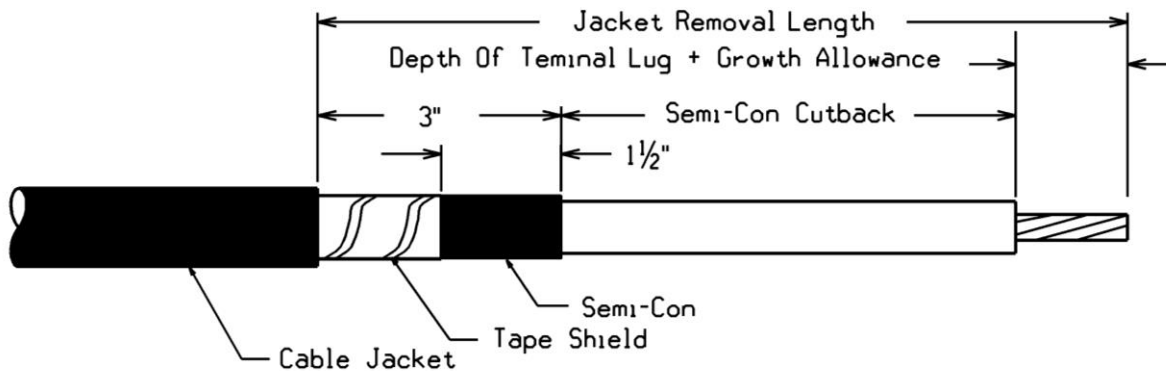

Figure 16
2. Prepare cable using the dimensions shown in Figure 16 and the Semi-Con Cutback in Table 9 below. Be sure to allow for the depth of terminal lug and growth of the Aluminum Lug (if used – see Table 8 below). If necessary to prevent tape shield from unraveling, TEMPORARILY hold down the edge with a single wrap of vinyl electrical tape.